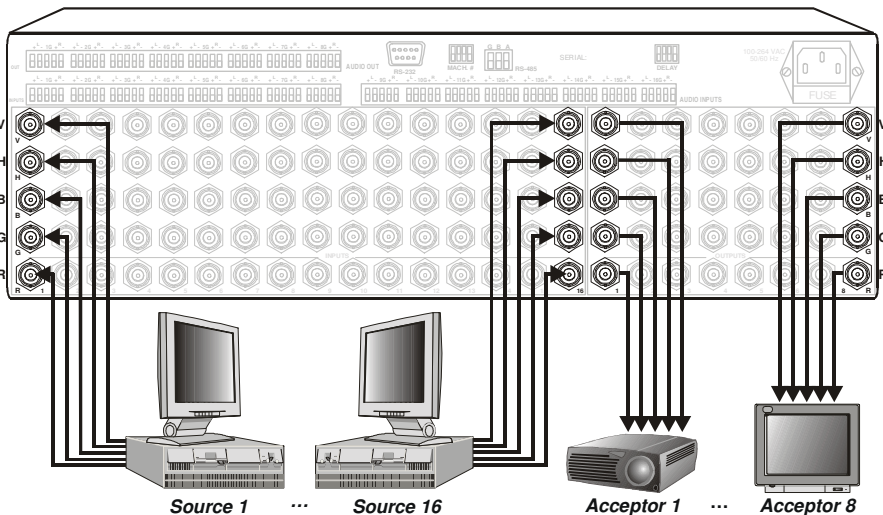

Figure 5: Connecting the Video Sources and Acceptors to the Rear Panel
- Video sources and acceptors (see the illustration³ in Figure 5)